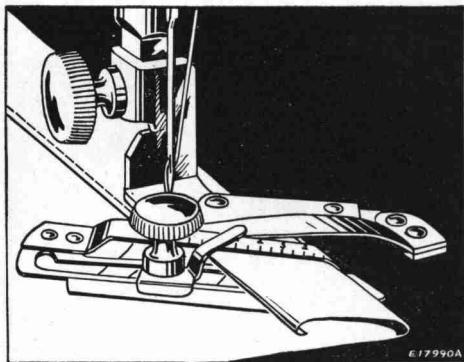

FIG. 42. SHOWING HOW ADJUSTABLE HEMMER IS USED FOR MAKING HEMS UP TO  $\frac{15}{16}$  INCH WIDE
- (3) Loosen the thumb screw on the hemmer and move the scale until the pointer registers with the number of the desired width of hem, No. 1 indicating the narrowest hem and No. 8, the widest, then tighten the thumb screw.
- (4) Place the cloth in the hemmer and draw it back and forth until the hem is formed, as shown in **Fig. 42**.
- (5) Draw the end of the hem back under the needle, lower the presser bar and commence to sew.
- (6) Guide sufficient cloth into the hemmer to turn the hem properly.